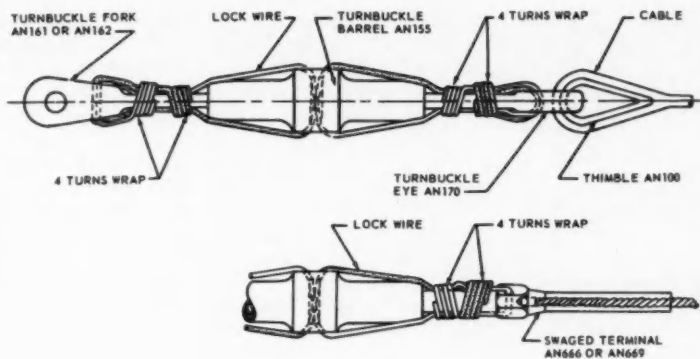

Fig. 3A. Safetying Turnbuckles (Preferred Method)
**S**AFETYING TURNBUCKLES—Several different methods of safety-wiring turnbuckles are in use; however a standard procedure has been adopted by the services as the preferred type. This preferred method is shown in fig. 3A and should be used in preference to the method shown in fig. 3B.
However, turnbuckles safety-wired in accordance with fig. 3B may be continued in service until such times as safety-wire replacement is required. When replacement is required the method shown in fig. 3A should be used.
Prior to safetying, both threaded terminals should be screwed an equal distance into the turnbuckle barrel and shall be screwed in at least so far that not more than three threads of any terminal are exposed outside the barrel. After the turnbuckle has been adjusted to its locking position, two safety-wires shall be passed through the hole in the center of the turnbuckle barrel, and the ends of the wires shall be bent 90 degrees towards the ends of turnbuckle barrel as shown in fig. 3A.
The ends of the wires shall be passed through the hole in the turnbuckle eyes or between the jaws of the turnbuckle fork as applicable. The wires shall then be bent toward the center of the turnbuckle and each wrapped *four* times around the shank, binding the wrapping wires in place, as shown in fig. 3A. When a swaged terminal is being safetyed, one wire shall be passed through the hole provided for this purpose in the terminal looped over the free end of the other wire and both ends shall be wrapped around the shank as shown in fig. 3A.